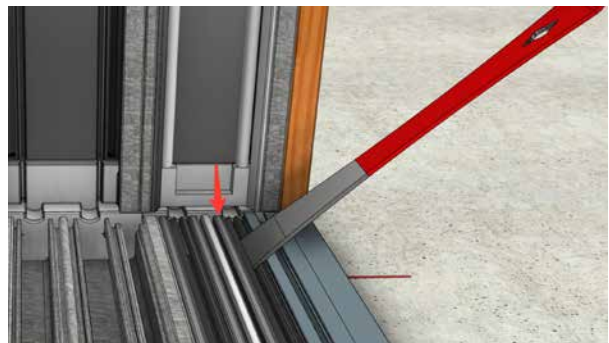
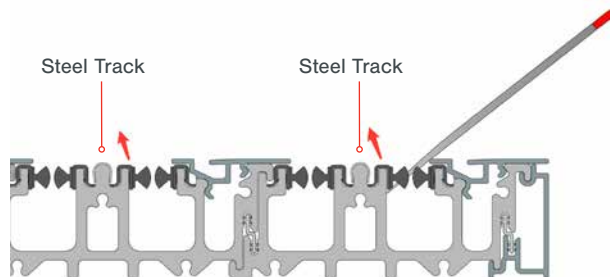

Fig 26
Fig 27
- Using a pry bar, lift and remove the line of weatherstripping that is just inside the steel track. (Fig. 26 and Fig. 27)